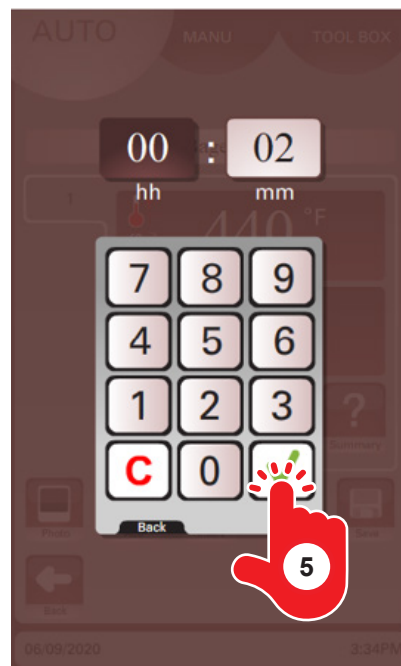

Fig. 32
5. Enter the desired bake/cook time on the keypad (Fig. 32). Touch the green check mark when finished. The Manual Mode screen should appear with the set bake/cook time.